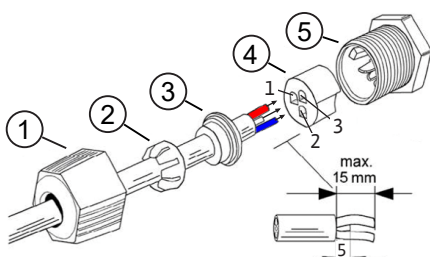

Fig. 18: Quickon connector
2. Remove the signal cable line sheathing (approx. 15 mm). The wire ends must be flush with the splice ring (Item 4) or may protrude max. 2 mm, see Fig. 18.